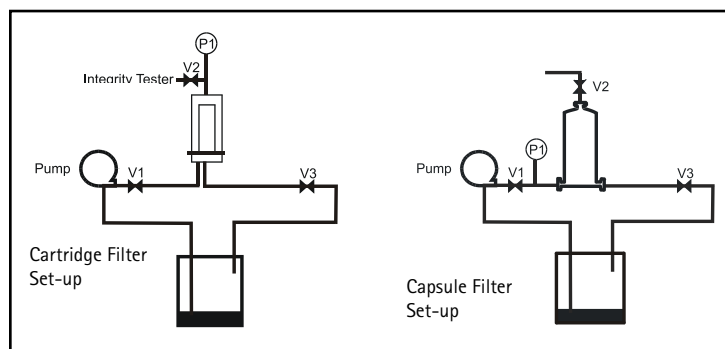

Figure 2. Typical set-up for wetting with a peristaltic pump.
- Set up the filtration system to meet the maximum pressure rating for the tubing (as shown in Figure 2) and close all valves (V1, V2 and V3).
1. Set up installation as shown in Figure 2 and close all valves (V1, V2 and V3).